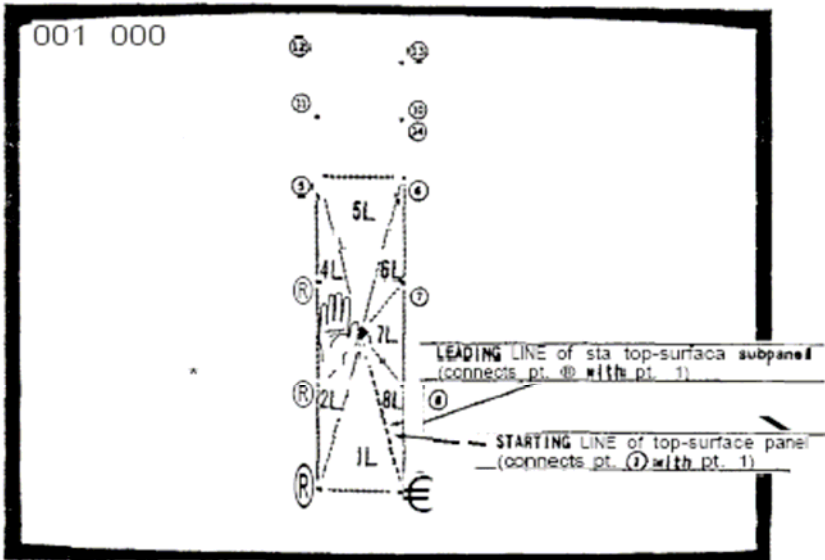

fig. 37 (HIGH LINE GRAPH)
2. Use the **X (X OF CURSOR)** key to send the cursor to **X = 60, Y = 15** (pt. 1, fig. 37). This is a point at the center of the stem.
3. Form a **STARTING LINE** (fig. 37) by typing "." (Plot).
4. Construct the top-surface stem sub panel by holding down the **"L" (LOW LINE)** key until the surface sub panel of the stem is closed. (Stop when the **LEADING LINE** connects **LOW LINE** pt. (9) with **HIGH LINE** pt. 1, fig. 37.)